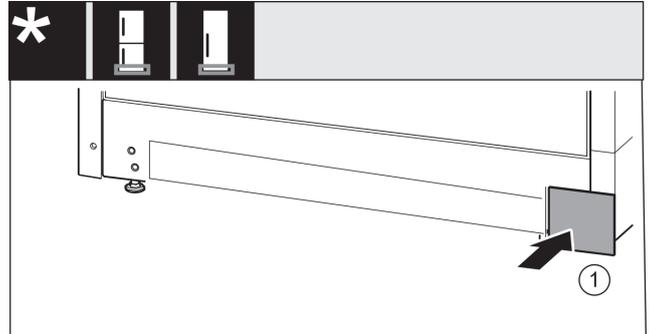

Fig. 40
- ▶ Re-attach the cover Fig. 40 (1) to the other side.